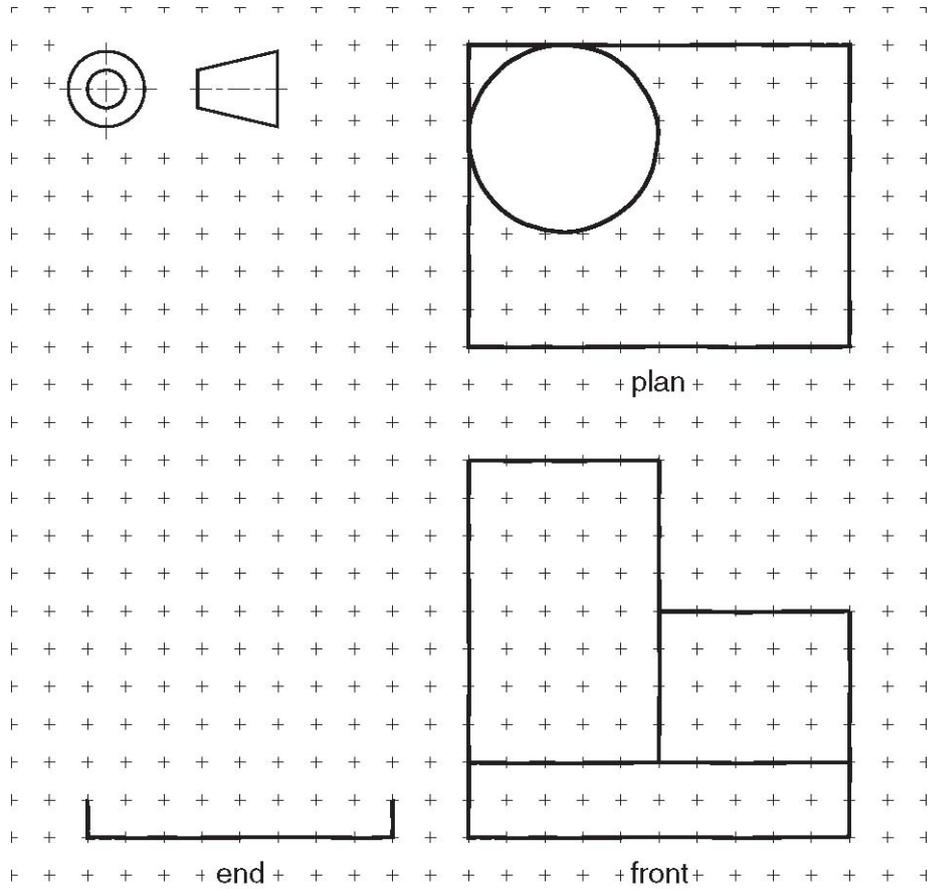

Fig.7
- (b) Complete the freehand orthographic drawing of the display stand shown in Fig.7.